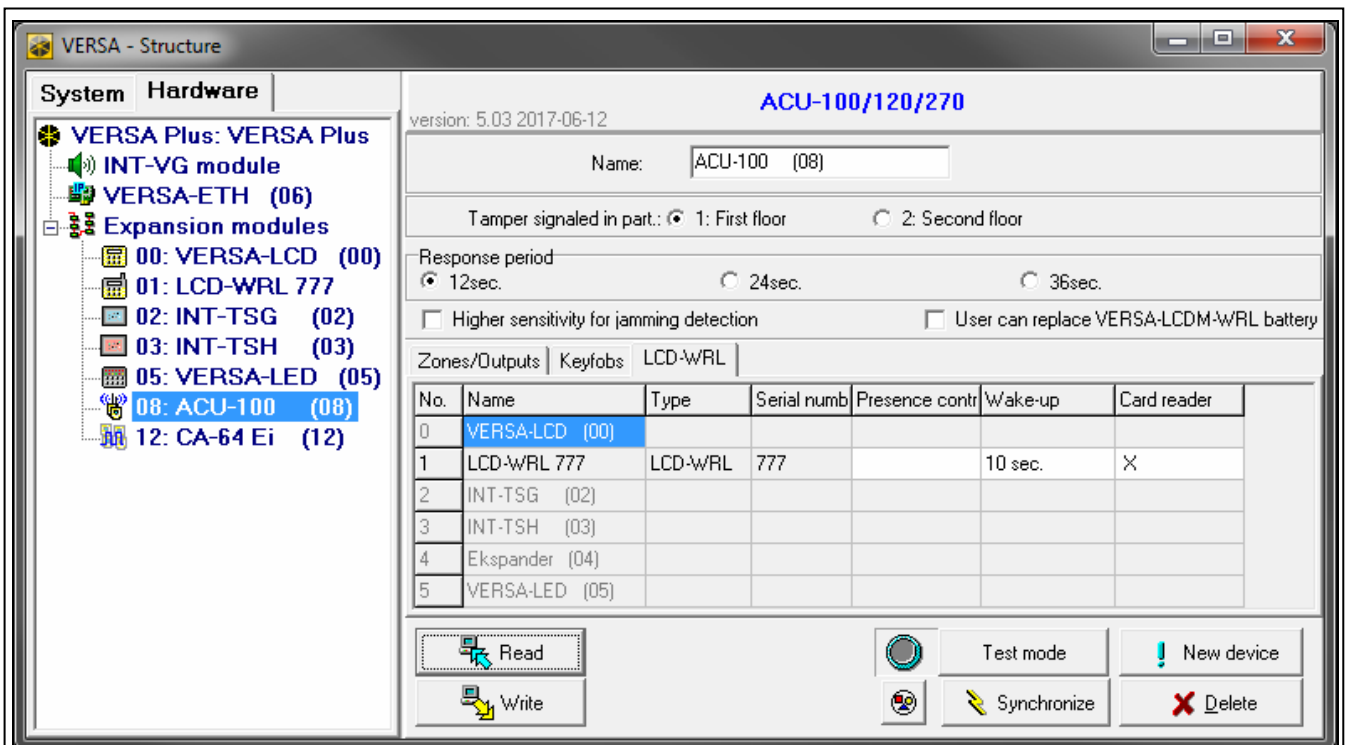

Fig. 3. DLOADX program: keypad settings stored in the ABAX system controller.
You can add wireless keypads in the “VERSA – Structure” window, “Hardware” tab, after clicking on the name of ABAX system controller on the list of devices, and then on the “LCD-WRL” tab (see: Fig. 3 p. 5).
You can remove the wireless keypads in the “VERSA – Structure” window, “Hardware” tab, after clicking on the name of ABAX system controller on the list of devices, and then on the “LCD-WRL” tab (see: Fig. 3 p. 5).
- DLOADX program: →“VERSA – Structure” window →“Hardware” tab →“Expansion modules” branch →[ABAX system controller name] →“LCD-WRL” tab (see: Fig. 3),